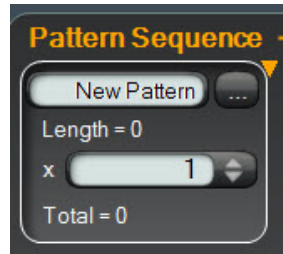

Figure 65. Creating a custom pattern
1. In the **Programmable Pattern Editor**, click on the **New Pattern...** button under **Insert**. A new sub-pattern is displayed as shown in Figure 65.